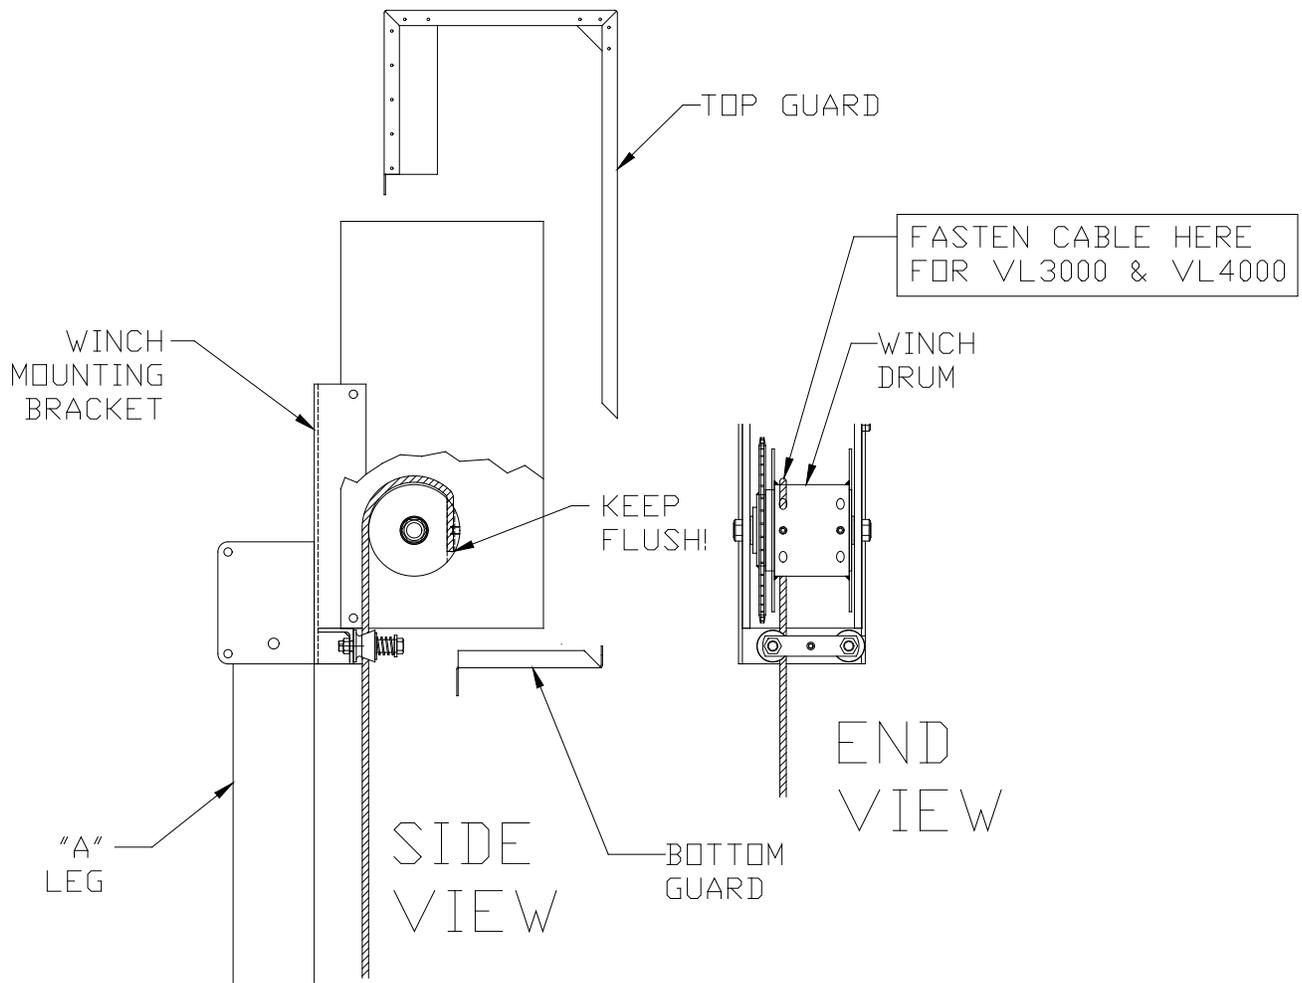

Figure 3-2.
1. Refer to Figure 3-2. Remove the top and bottom guards from the winch housing by removing the (4) 1/4 -20 pan head screws.
3. Starting from the bottom of winch, reeve the cut end of cable between the cable guide roller assembly, and up the back side of winch. Wrap the cable over the top of winch drum, inserting cable into the hole on the LEFT SIDE of drum as shown in Figure 3-2. **Keep the cable flush with the drum wall.**